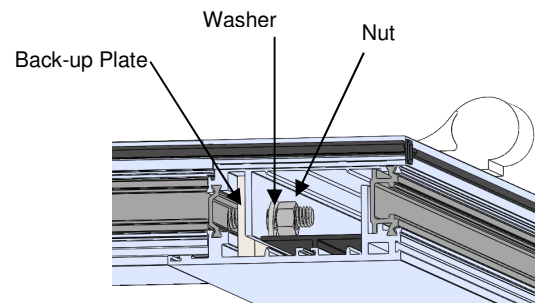

Figure 10:
- Slide the back-up plate over the threaded rod. Followed by the washer and nut (Figure 10).